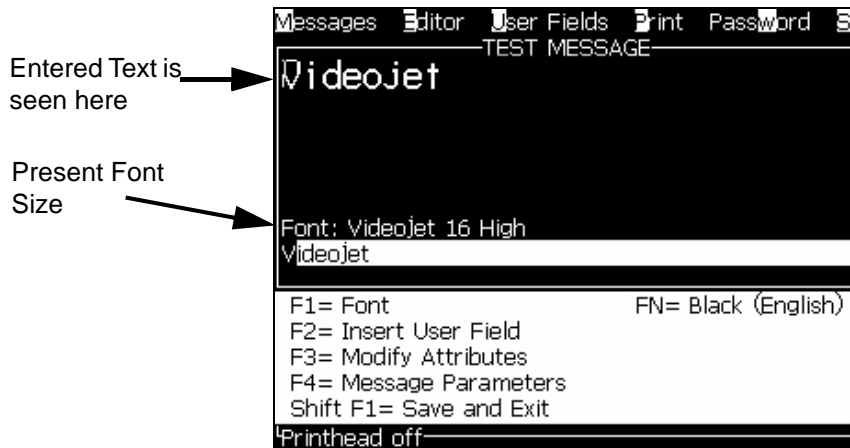

Figure 5-5: Create New Message
- 4 Press the *Enter* key. The Message Editor screen appears (see Figure 5-5 on page 5-25).